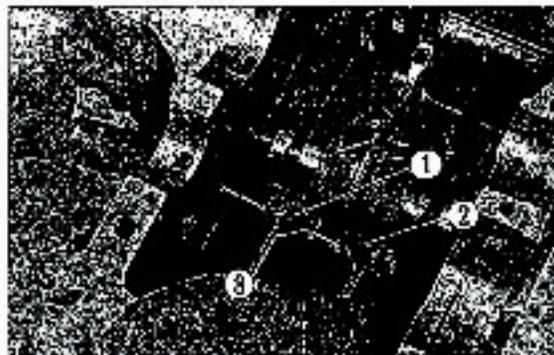

Fig. 369 ① Right gearshift fork
3. Put the right and left gearshift forks in the upper crankcase and insert the gearshift fork shaft as shown in Fig. 369.